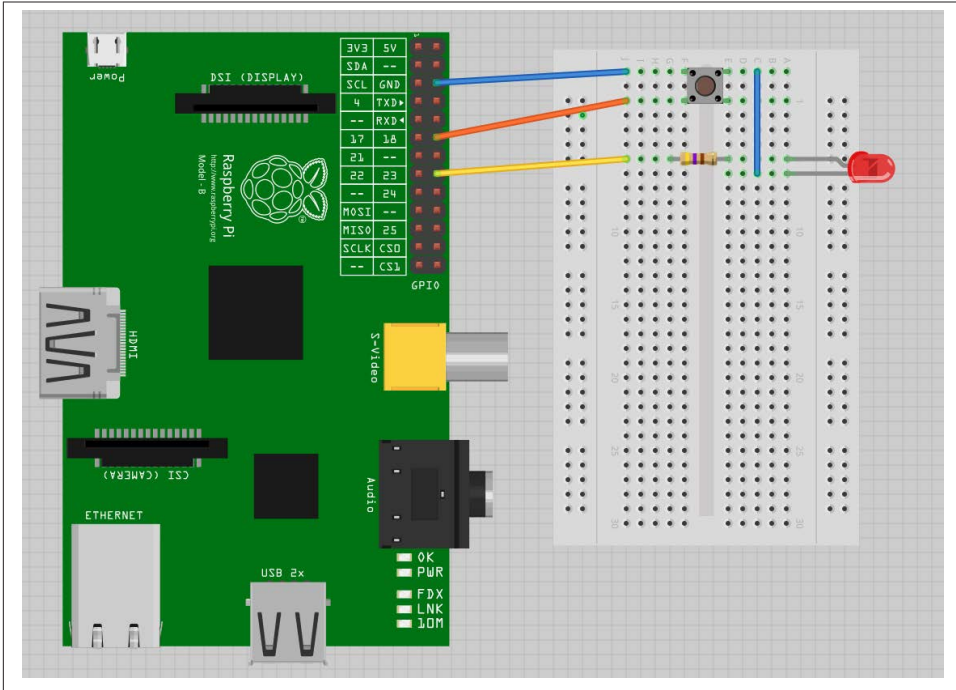

Figure 11-3. Connecting a push switch and LED to a Raspberry Pi
**Figure 11-3** shows how to connect a tactile push switch and LED using a breadboard and jumper wires.